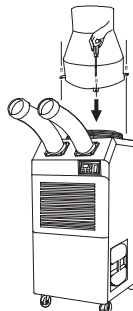

Figure 12
3. Use screws (enclosed inside of box with exhaust flange) to install exhaust flange on air conditioner as shown in Figure 12.